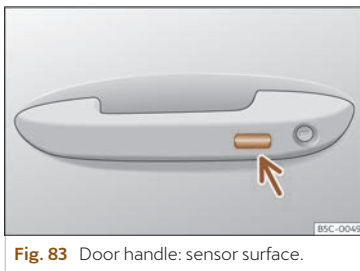

Fig. 83 Door handle: sensor surface.
- **OR:** using the Keyless Access system (only locking): Press and hold the locking sensor surface >>> **Fig. 83** (arrow) on the door handle for several seconds to close the windows and the sunroof. If you release the sensor surface, the closing movement stops.
Press and hold the locking sensor surface >>> **Fig. 83** (arrow) on the door handle to close the sunroof. If you release the sensor surface, the closing movement stops.